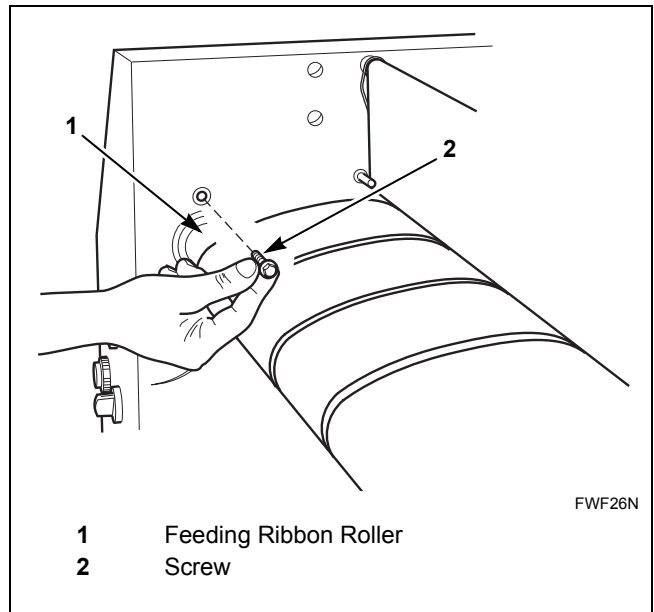

Figure 32
- Unlock the feeding ribbon roller at the left side interior panel by removing two screws. Keep roller in place and check the direction in which the bearing is mounted. Refer to *Figure 32*.